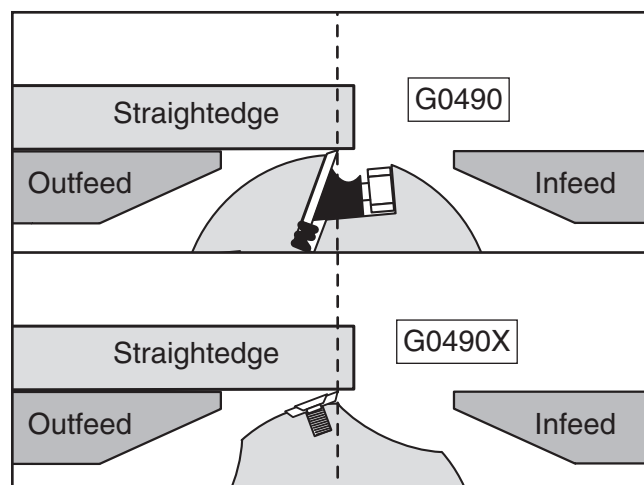

Figure 59. Using straightedge to check outfeed table height.
7. Use outfeed table adjustment lever to set outfeed table so that knife or insert barely touches straightedge, as illustrated in **Figure 59**.